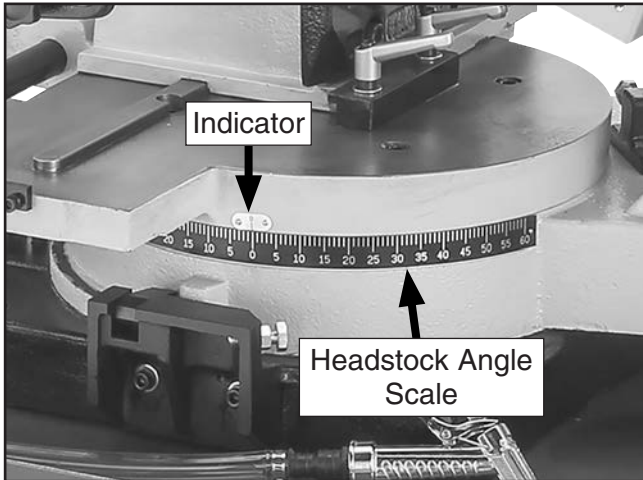

Figure 46. Location of headstock angle scale and indicator.
- Using scale and indicator shown in **Figure 46**, use headstock handle to swivel headstock as desired, then tighten swivel lock lever to secure.